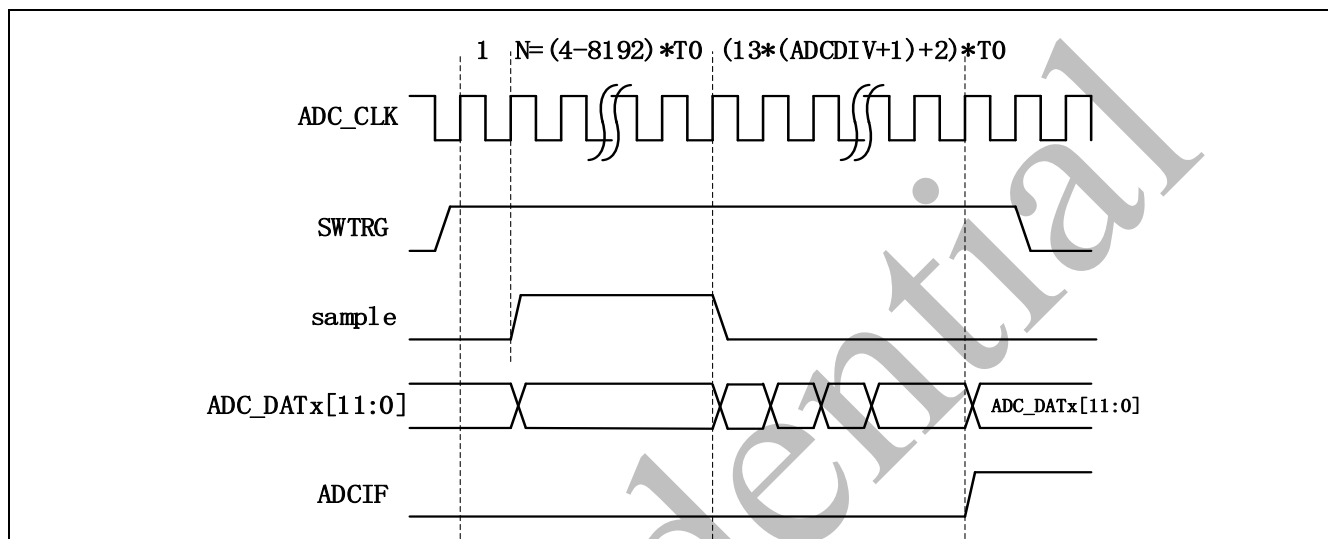

Figure 3-82 Single Mode Conversion Timing Diagram
- 5 Figure 3-82 shows an example timing diagram for Single mode.